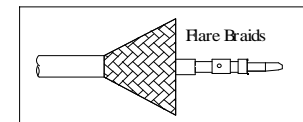

Figure 5
- Smooth all braids down over the rear of the connector body, covering the knurl. Trim off braids at the end of the knurled section as shown (Cuticle Scissors), just short of the O-Ring (braids should not cover O-Ring). See fig. 5.